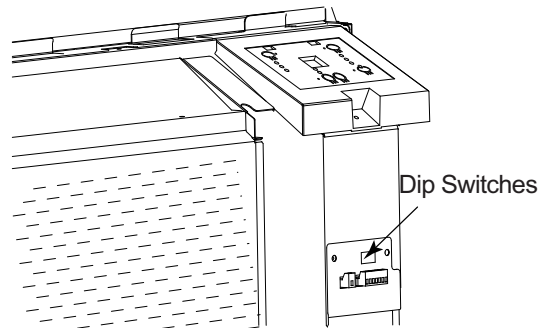

Fig. 19 – Dipswitch Location on Unit
3. Turn louver insert and rotate 180°. See Fig. 19.